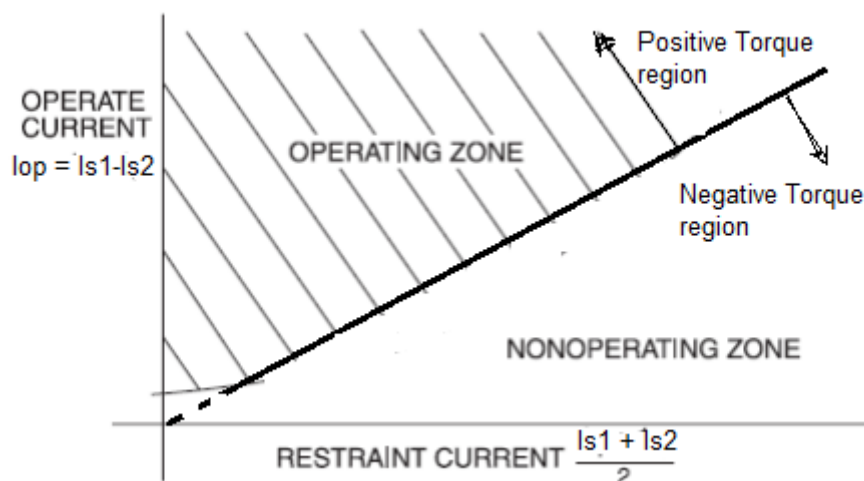

Fig. 7 Typical operating characteristic of a percentage differential relay.
- The operating characteristics of the relay is shown in Fig.7